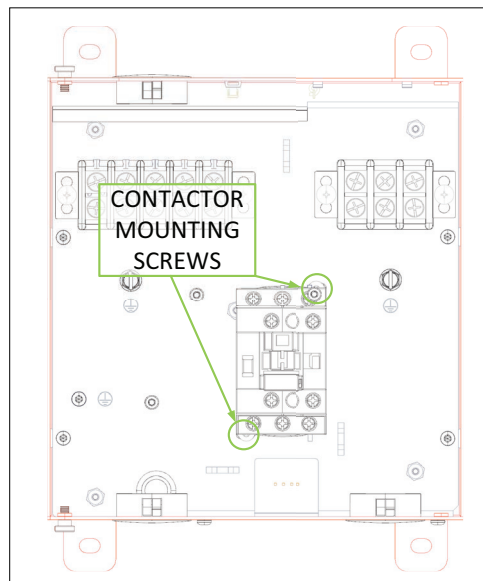

Figure 3. Removing Contactor Mounting Screws
- Remove and discard the two screws holding the contactor to the mounting plate using a Torx T20 driver (see Figure 3).